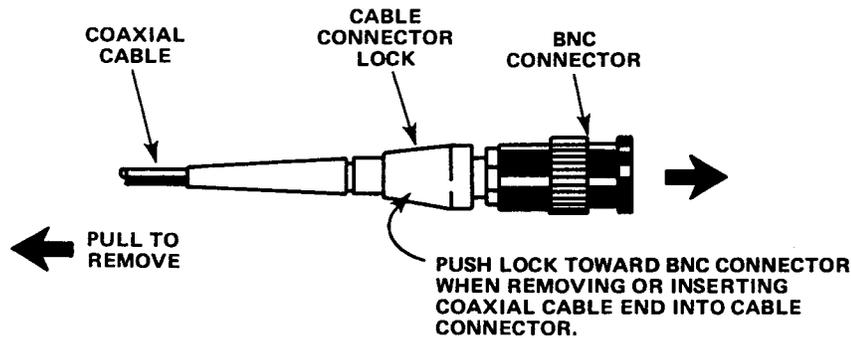

Figure 5-14. Probe BNC connector removal and replacement.
(1) **BNC Connector.** The BNC connector on the P6101 probe is removed and replaced as shown in Figure 5-14.
(4) **Probe Cable.** By performing step (3) and either (1) or (2) above, the probe cable can be separated into one piece.